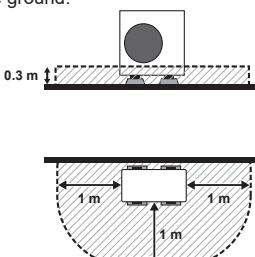

Fig. 3-3
- (2) When installed in a location with 3 surfaces opened (in front of a building wall) (Fig. 3-3)